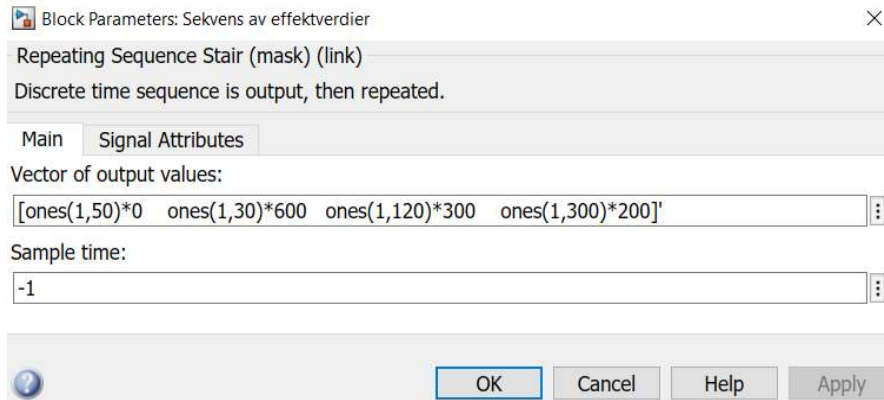

Figure 5.10: Parameterization of the hob input.
As a chef, how would you get the hob to achieve a temperature of 120°C as soon as possible (without overshoot)? The hob can be turned up to power 6, i.e., 600 W. To find out this, double-click on the Switch so that you use the block *Sekvens av effektverdier* (this is a Source block called Repeating Sequence Stair). By double-clicking on the block you get the window shown in Fig. 5.10.
In Fig. 5.10, 0 W is used for the first 50 seconds, followed by 600 W for 30 seconds, then 300 W for 120 seconds and finally 200 W for 300 seconds. Make sure that the sum of the lengths of the ones is the same as the simulation time (500), e.g., $50+30+120+300 = 500$. Always use 0 W in the first 50 seconds so that the first step input happens at 50 seconds.